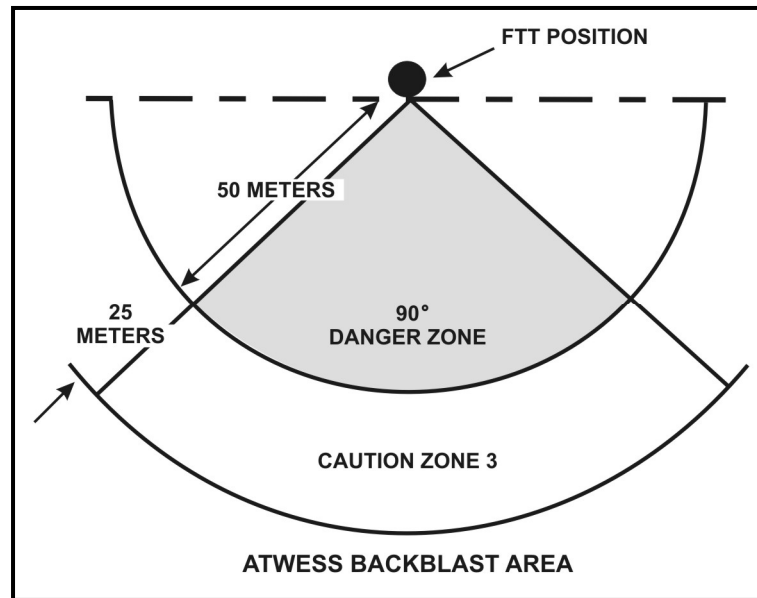

Figure A-3. ATWESS danger zone.
b. Before pulling the PULL-TO-ARM switch, always check to ensure no personnel or equipment (antennas) are in the ATWESS danger zone, which extends for 75 meters behind the ATWESS firing chamber and covers an arc 90 degrees wide (Figure A-3).